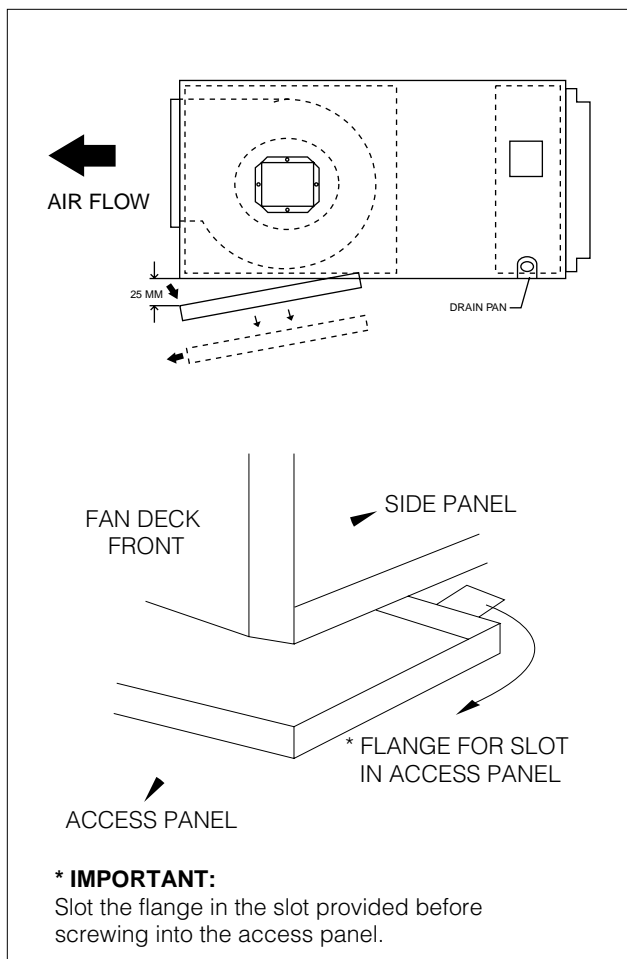

FIG. 6 MOUNTING ACCESS PANEL
All internal parts of the unit should be accessible by removing access panel at the base of the unit. Do not remove the base pan which is connected with the drain pipe unless necessary. To remove the access panel, follow the procedures below (Refer to Fig. 6)
- 2) Pull down the access panel as shown in Fig.6 (approximate 25mm)